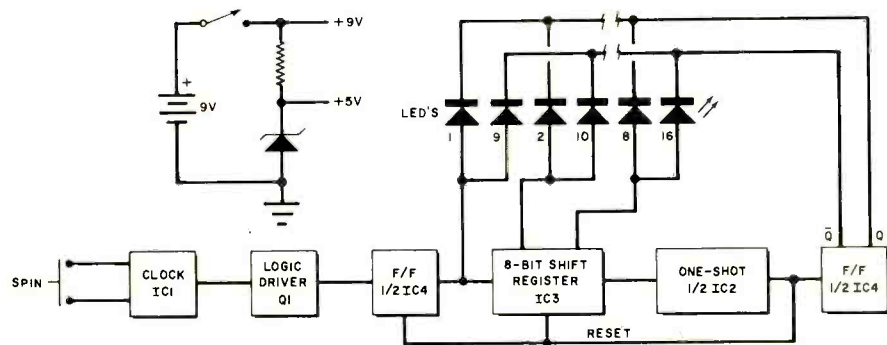

Fig. 1. Pressing the SPIN button starts the clock oscillator.
**Circuit Operation.** As shown in Fig. 1, a clock oscillator (*IC1*) operates at